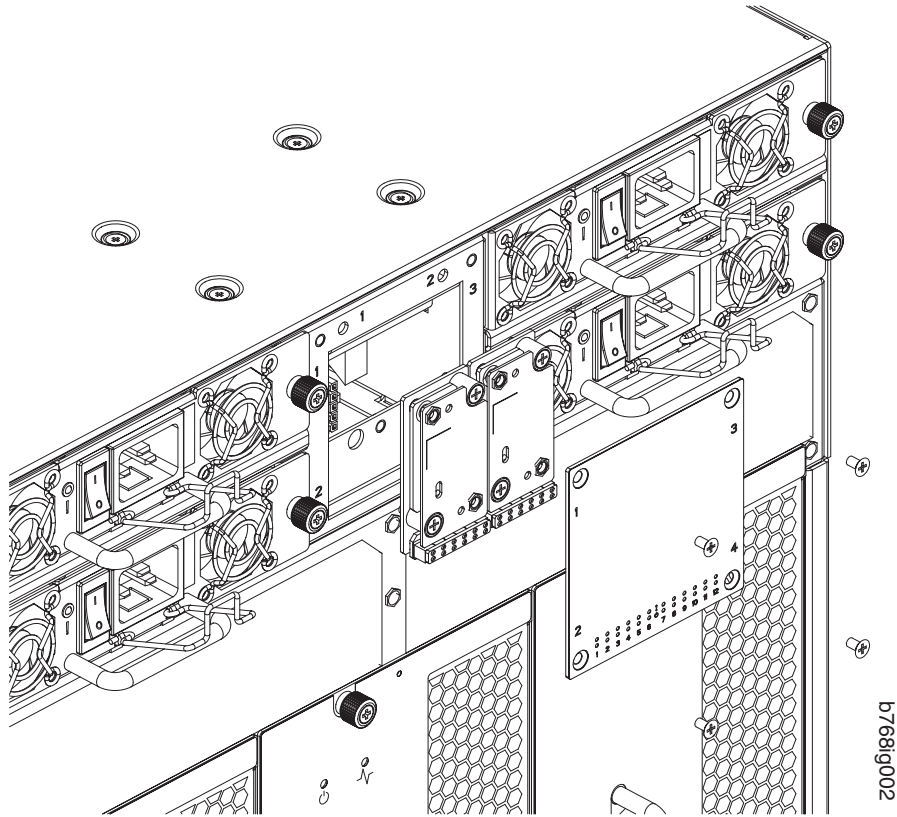

Figure 33. WWN bezel and card removal and installation
6. Remove the four screws from the WWN bezel (see Figure 33 on page 80). Pull the bezel away from chassis and set it aside. The WWN cards are visible.
3. Install the WWN bezel. Orient the bezel on the chassis (see Figure 33). Insert and tighten the four screws.